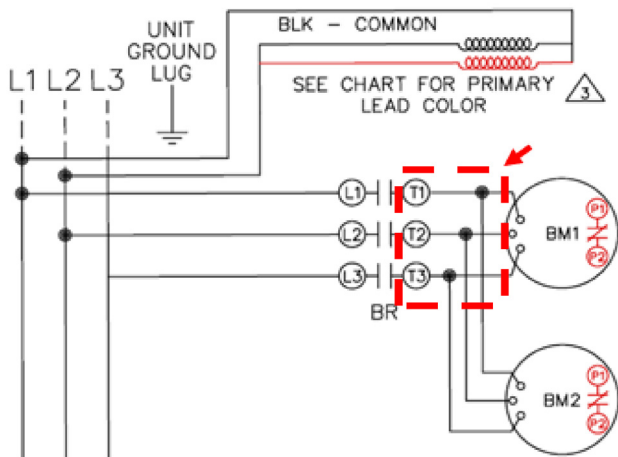

Fig. 38 — Take Apart Construction Wiring Connection, No VFD
2. Connect the blower motor wiring labeled 1, 2, 3. For units without a VFD the wiring to be connected in the field is the wiring from the blower to be connected to the Blower Relay (BR) terminals labeled T1, T2, T3. For units with a VFD the wiring to be connected in the field is the wiring from the VFD power terminal U1, V1, W1 to be connected to the TB2 terminals. See Fig. 38 and 39 for further details.